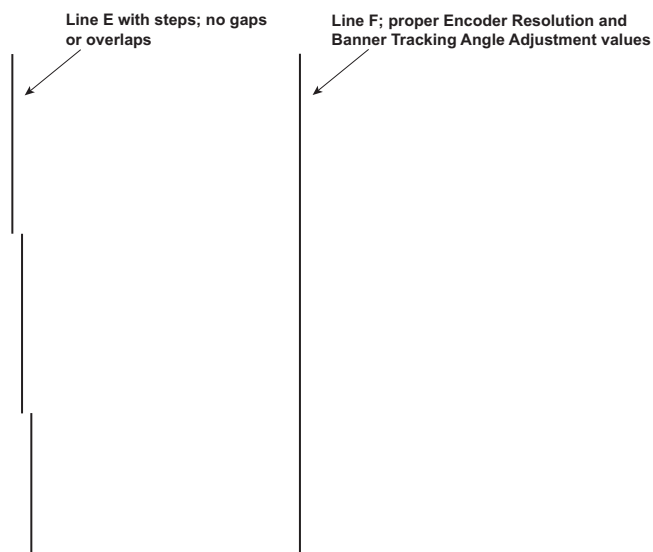

Figure 6 Illustration of line showing “stair steps” between Banner Windows
- 4 If the mark produced by the banner tracking setup file has “stair steps” as shown by line “E” in Figure 6, fine-tune the Banner Tracking Angle Adjustment value, increasing or decreasing the angle in the range of -0.15° to $+0.15^\circ$. If you cannot eliminate the steps within the allowable range of $\pm 0.15^\circ$, you will need to carefully change the physical angle of the marking head/laser assembly in relation to part movement. Continue fine-tuning the Banner Tracking Angle Adjustment until all three lines in the setup file are solid, straight lines as demonstrated by line “F” in Figure 6.